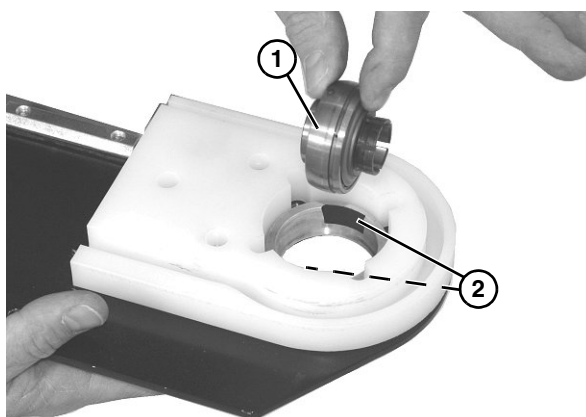

Figure 48
1. Turn bearing (**Figure 48, item 1**) to align with slots (**Figure 48, item 2**) in bearing housing. Then remove bearing.